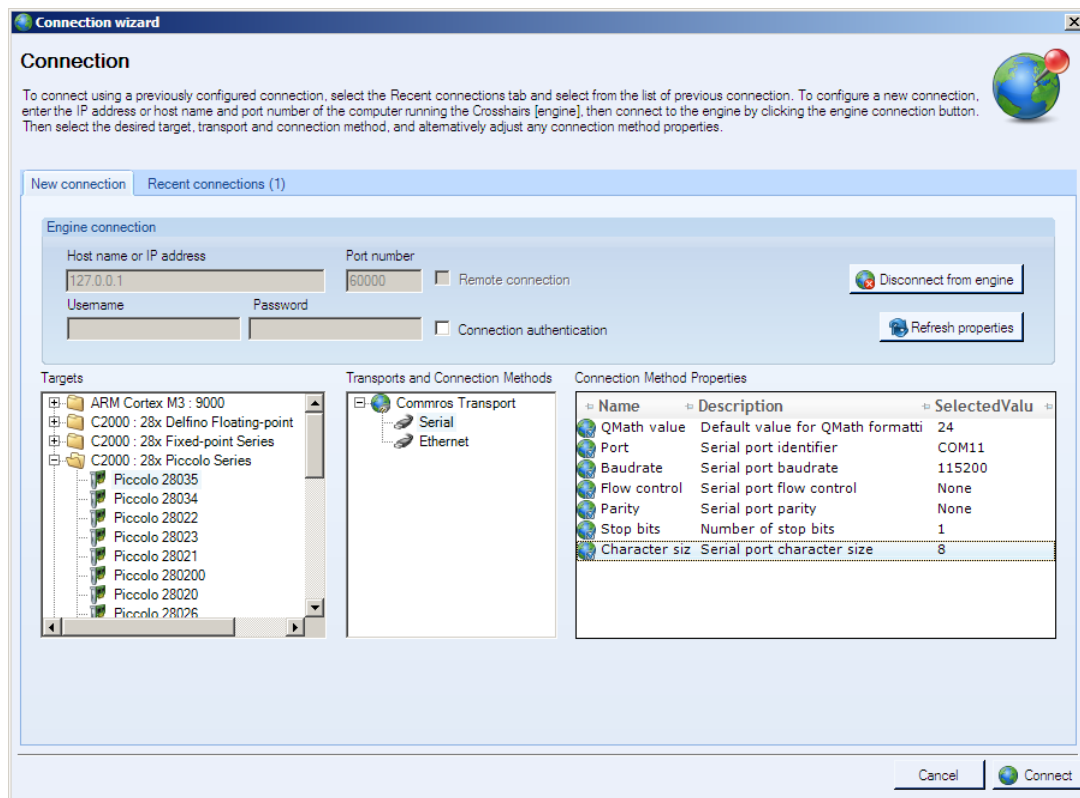

Fig4: GUI Setup Connections
- 3) The GUI should auto-detect and connect to your DRV830x-HC-EVM. If auto-connect fails you will need to set up the connection manually. The Connection Wizard is accessed through the Connection menu. Click on "Connect to engine" to view a list of available targets. Now setup the Connection Wizard Dialog to match Fig 4. Select *Piccolo 28035* from the Target list and *Serial* for connection method. You will need to determine the correct COM port number for your system. This can be found by going to *Control Panel->System->Hardware tab->Device Manager->Ports(COM & LPT)*. And look for the one which is described as USB Serial Port or similar. Hit Connect once done.